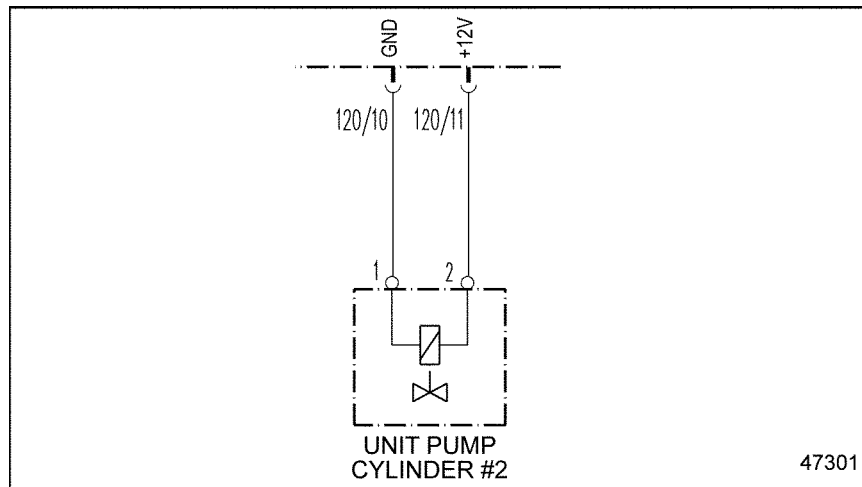

Figure 46-1 Electronic Unit Pump #2
2. Measure the voltage between pins 1 and 2 of Electronic Unit Pump #2. See Figure 46-1.